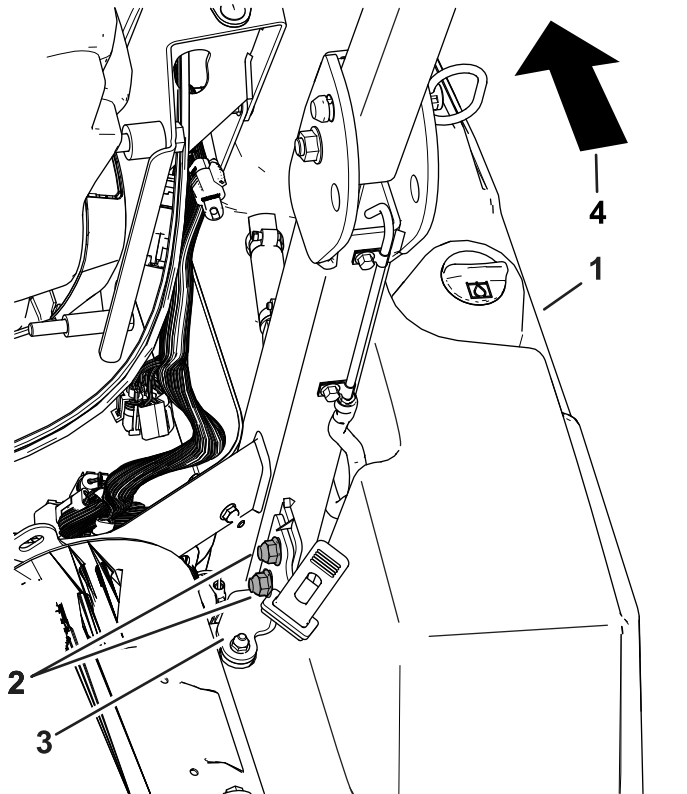

Figure 3
2. Remove the bolts behind the roll bar from the rear tank bracket. Refer to Figure 3.